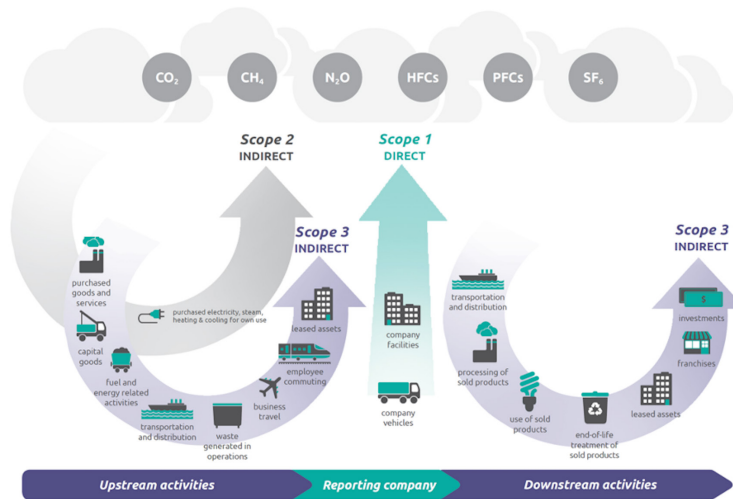

Figure 1 Disclosures of Scope 1, 2, and 3
- Figure 1 shows the various elements and their categorization into scope 1, 2, and 3.